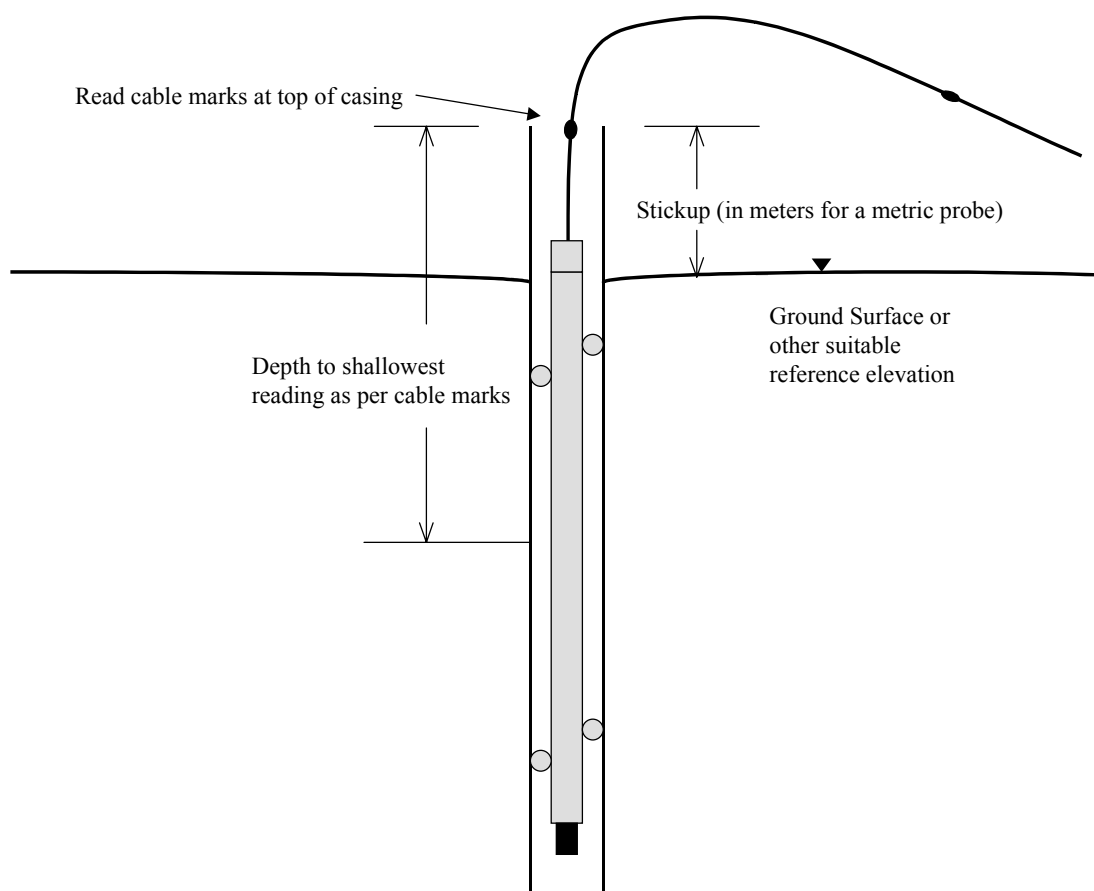

Figure 3
**Stickup** is the distance, measured along the inclinometer cable, from the reference elevation to the reference point used for reading the depth marks on the cable (See Figure 3). In most cases the reference elevation will be the ground surface and the cable depth marks will be read by reference to the top of the inclinometer casing. This means that the Stickup will be equal to the distance that the casing sticks up above the ground surface. Stickup must be given in the same units as the Readings depth interval and the cable marks.